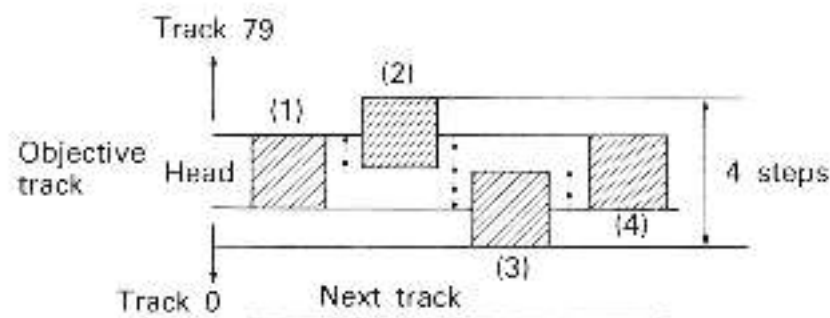

Fig. 7-7
Because this disk drive is not equipped with an erase head, the erase operation is done by the read/write head. When the write command is received, the objective sector is sought and read. At this stage, the ID of the disk is checked to determine whether the head arrived at the objective track. If the objective sector cannot be read even after 12 retries, the write operation ends with an error condition. Otherwise, the head moves one step in the direction of track 79, as shown in Fig. 7-7(2), to erase the objective hard sector. In erasing the data, the signals WD and $\overline{WD}$ are kept high and low or low and high, respectively. Then the head moves two steps, as shown by (3), to erase the other side of the track. The head eventually moves one step to write the data on the objective track.